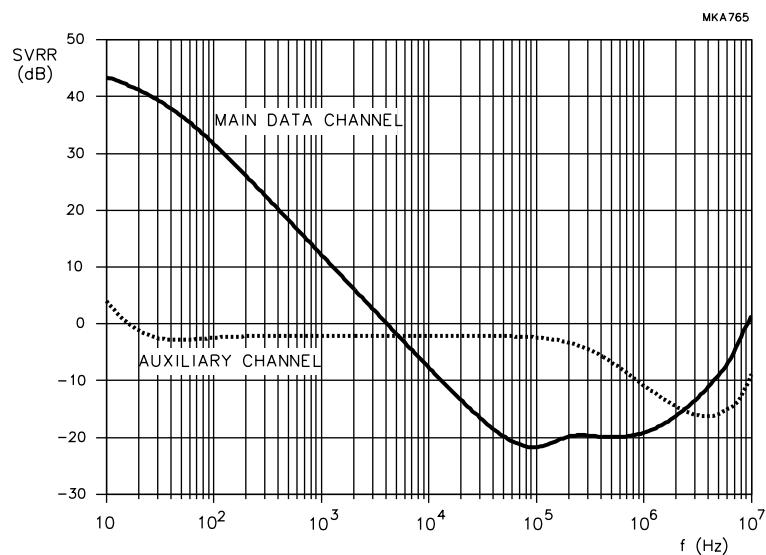

Fig.6 Typical supply rejection of the auxiliary and main data channel (AGC off).
3. Heads connected according to the circuit of Fig.11 (see also Fig.6 for typical supply rejection).